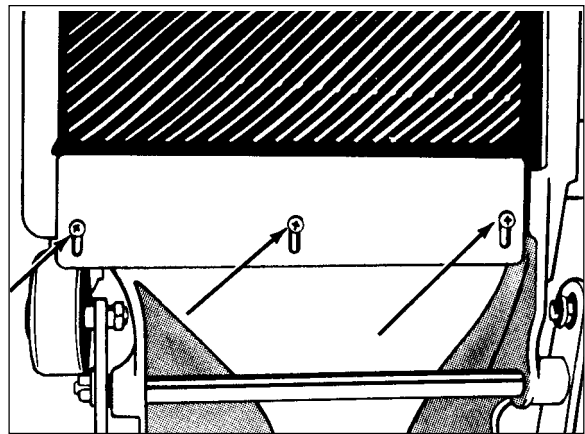

Figure 11
5. Align the dust shoe to the chassis and tighten all three screws. See figure 11.